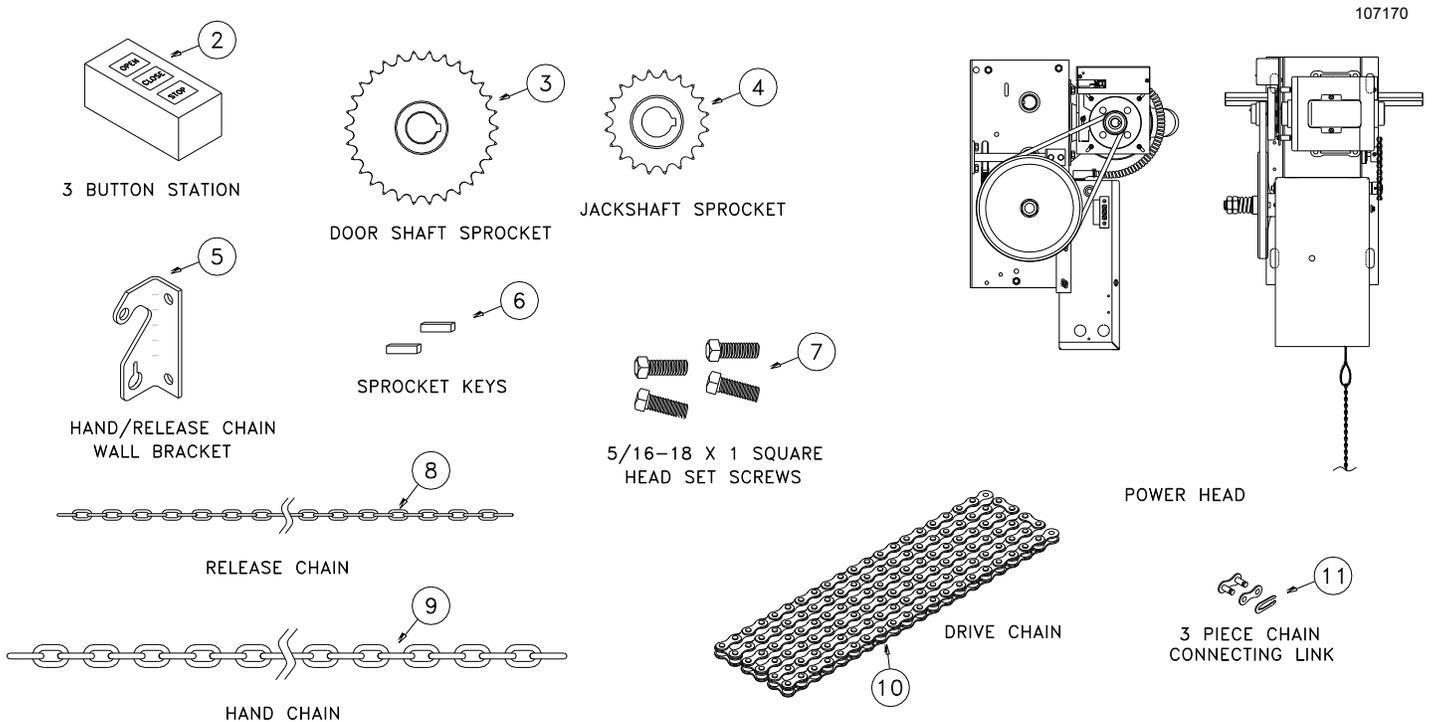
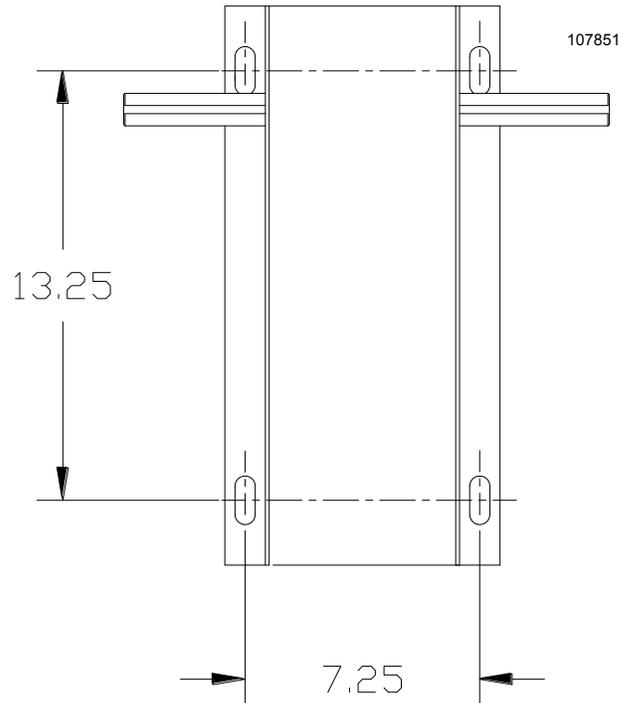
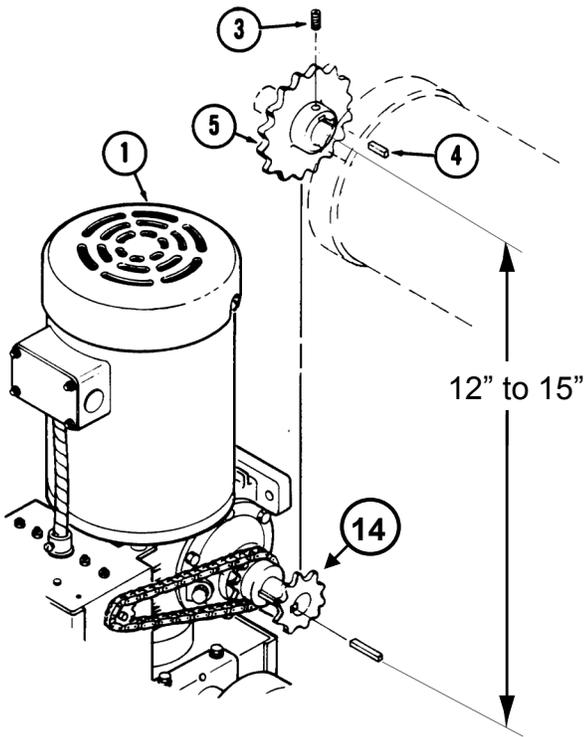
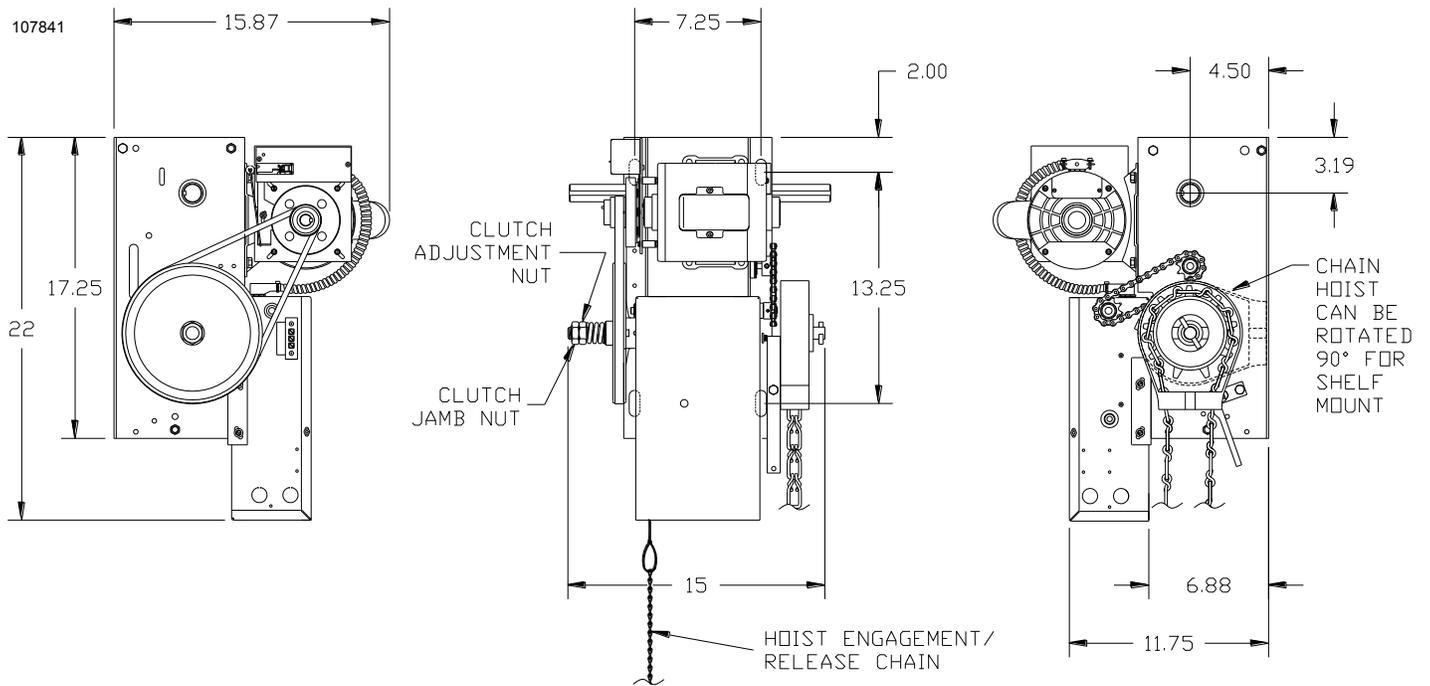

Figure 1
Figure 2
Figure 3
Figure 7 - Dimensions Model H-S
Refer to **Figure 2** (at right), **Figure 1**, page 4 and **Figure 7**, page 9 for component identification and the operator mounting slot locations. Place the sprockets [5] and [14] on the chosen side of the torsion shaft of the door and on the corresponding end of the output shaft of the operator, see **Figure 3**. The sprockets should be kept as close as possible to the bearings. Fasten the connecting link to each end of the door chain and loop the chain over the sprocket [5] on the torsion shaft. Temporarily suspend the operator in its mounting position using the chain over the sprocket [14] at one end of the jackshaft and a rope or chain at the mid point (to support the operator weight). With the chain tight and straight and the jackshaft **parallel** with the torsion shaft, trace the mounting slot on the mounting surface then lower the operator to the floor.
If there isn't a keyway on the doorshaft, keep the sprockets aligned and drill a 5/16" hole through the door drive sprockets and door shaft. Insert roll pin, Item (2). See **Figures 3 & 4**. **BEFORE PROCEEDING WITH THE OPERATOR INSTALLATION AND SETTINGS, MAKE A FINAL CHECK FOR TIGHTNESS OF ALL MOUNTING HARDWARE AND SET SCREWS.**